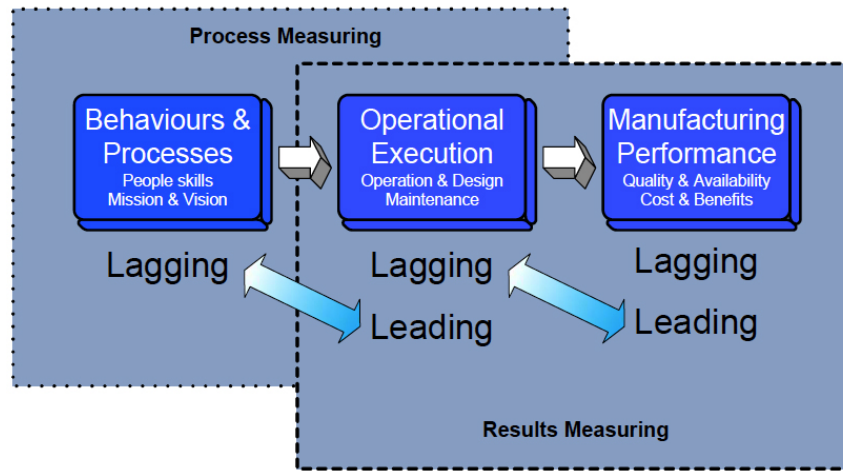

Figure 1. Maintenance and Reliability process component
There are three sets of measurable components that make up the maintenance and reliability process at Cargill (See Figure 1: Components of the Maintenance and Reliability Process).
- Focus on leading and lagging indicators for each reliability process component see figure 1